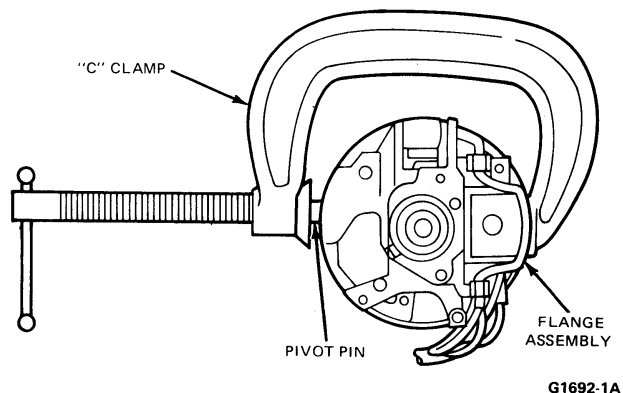

FIG. 26 Installing Flange Assembly Pivot Pins
5. Place the wire bale on the upper casting and install the spring clips that hold the bale in place (Fig. 26).